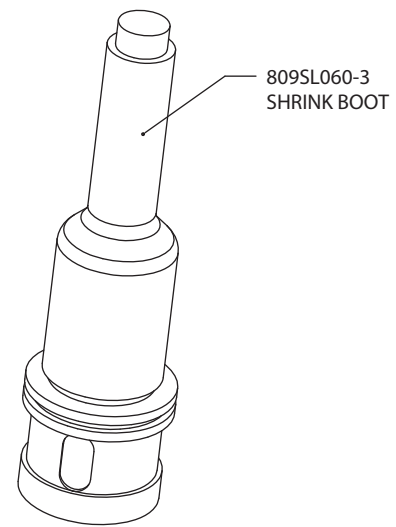

FIGURE 3
- C. Install 809SL060-3 shrink boot onto rear of shell. (Figure 3)